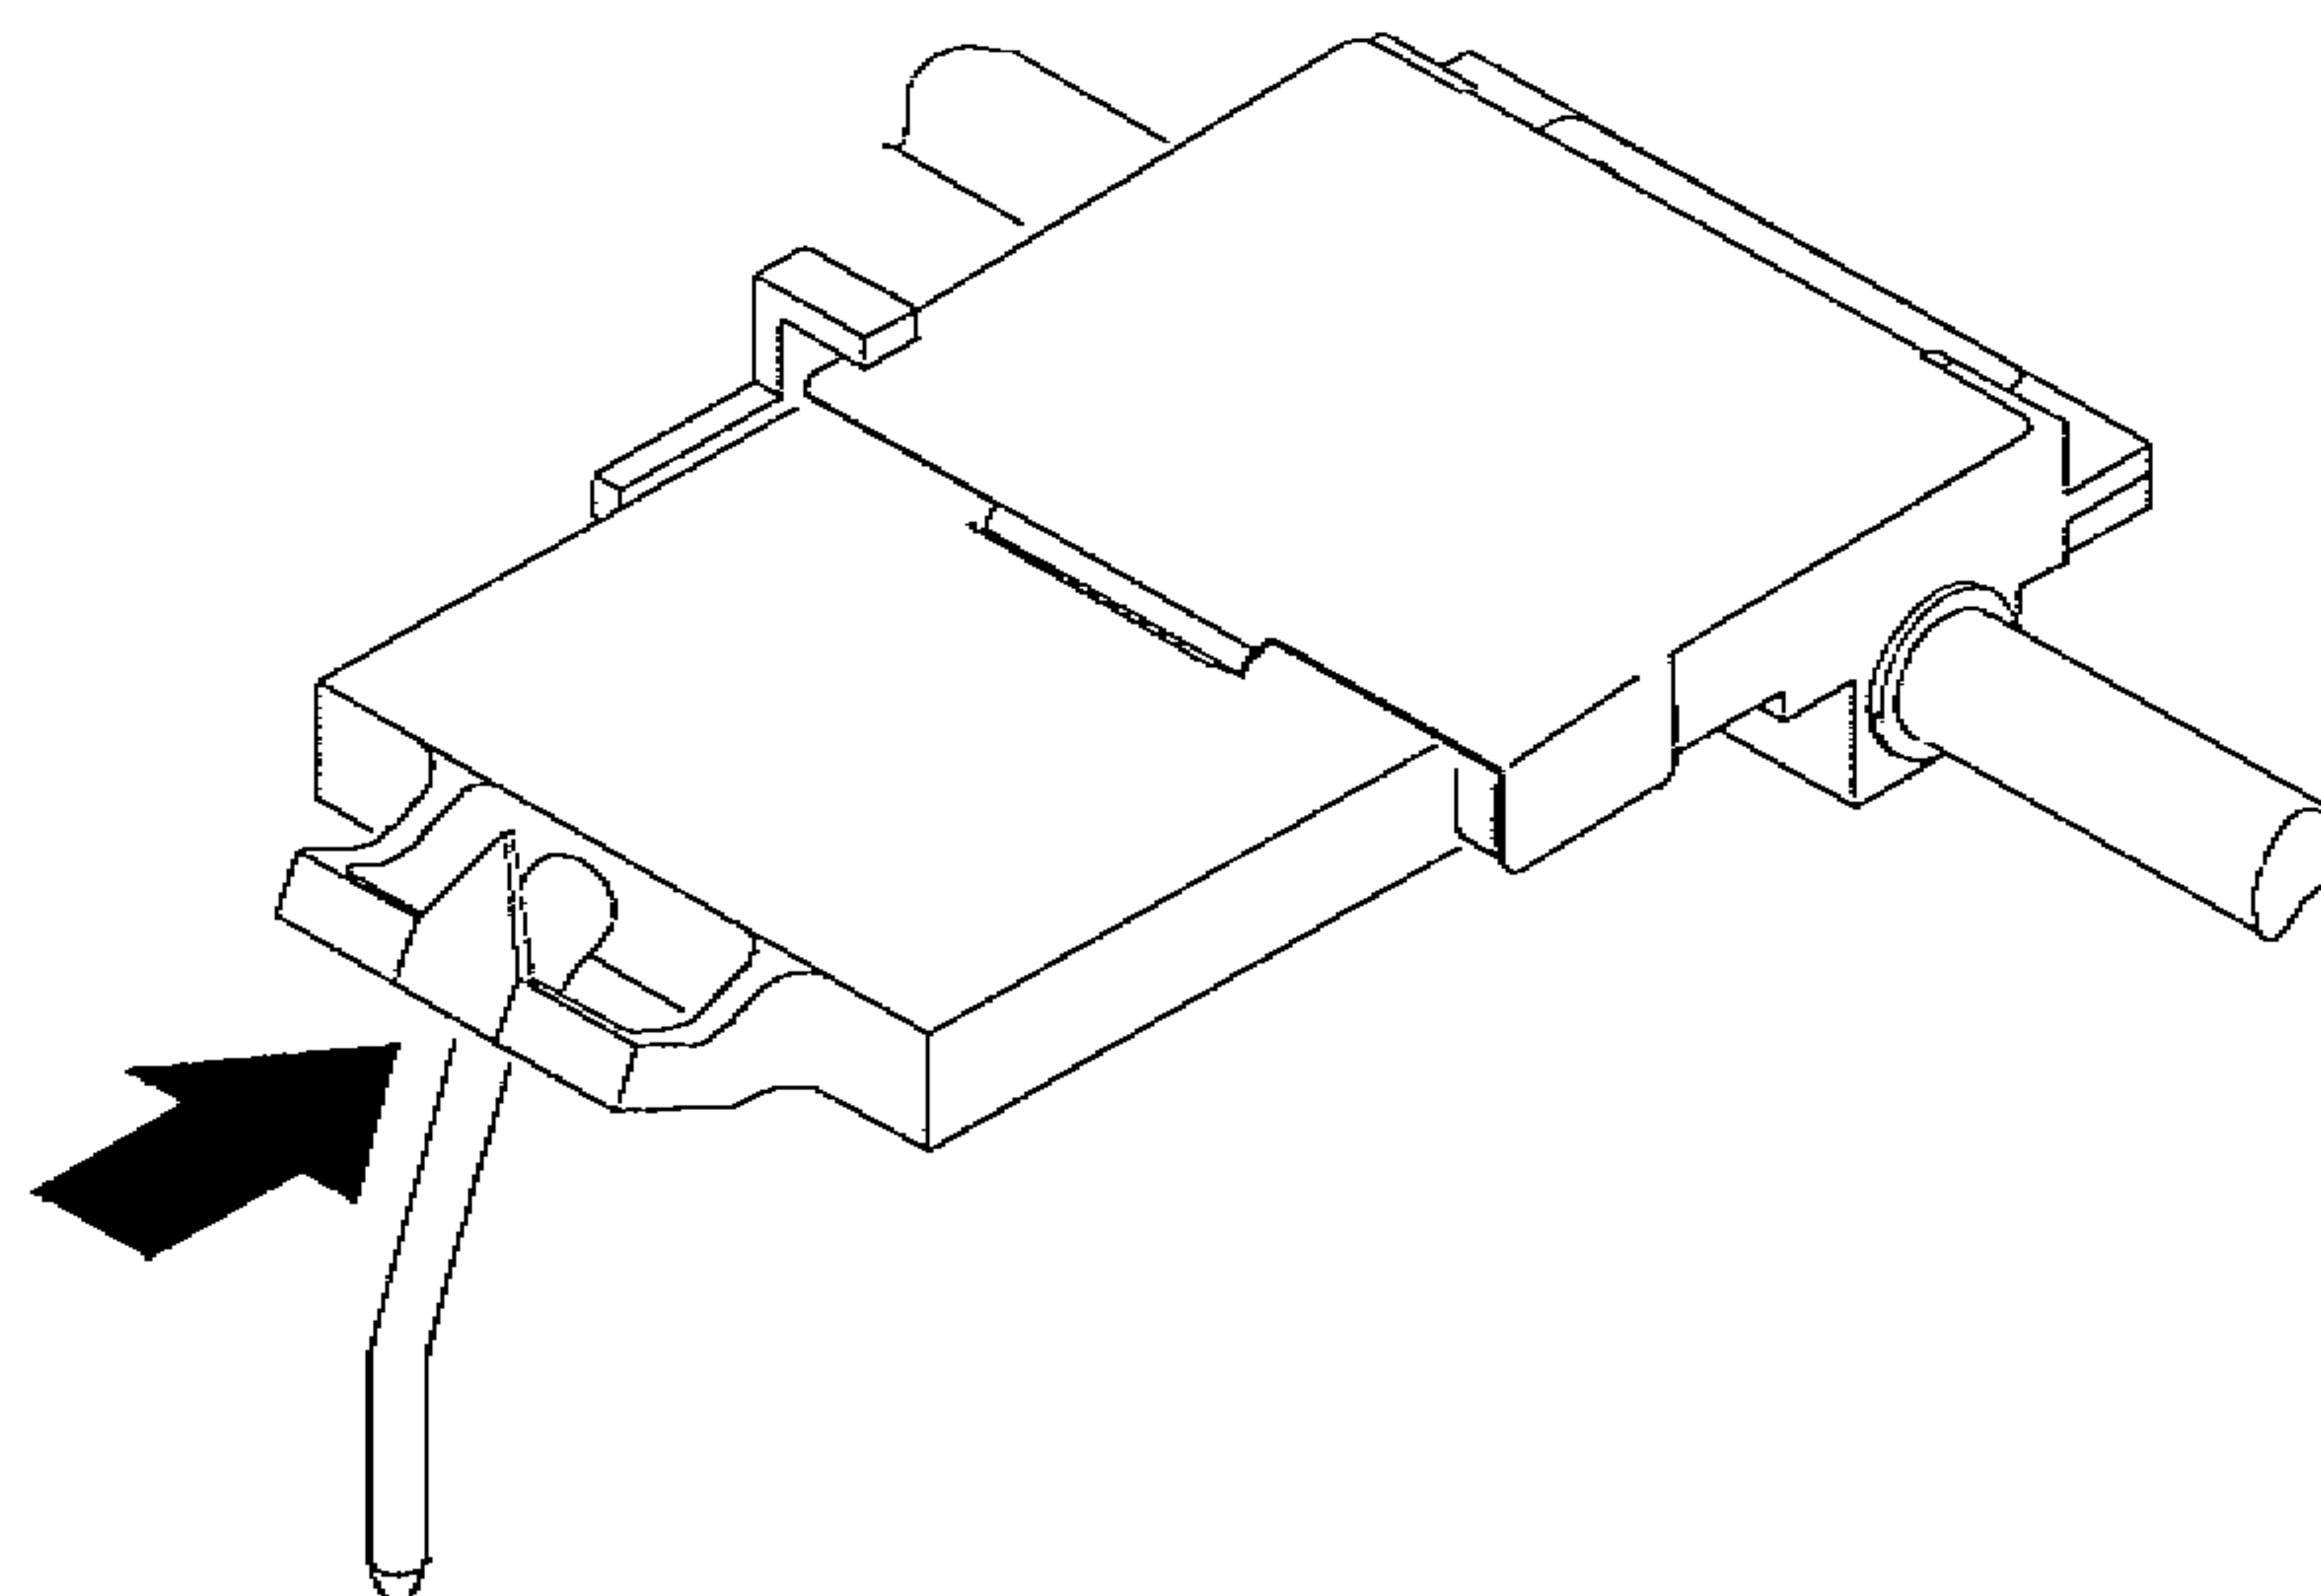

Fig. 5.10 Setting the Cartridge Pen
- (4) When the cartridge pen has been already set, pull it out to the near side as shown in Fig. 5.10.